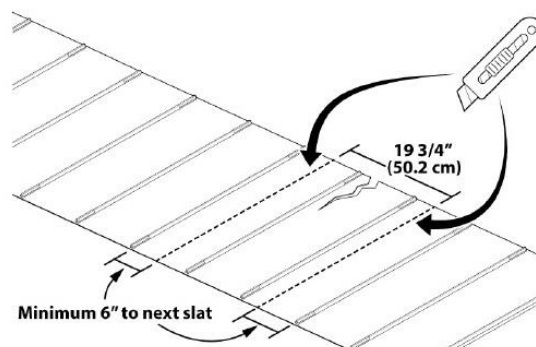

Figure 68
3. Measure 19 3/4" from the first line, ensuring the damaged section of the draper is included in this area and mark a second line, ensure this line is also straight and square. Figure 68